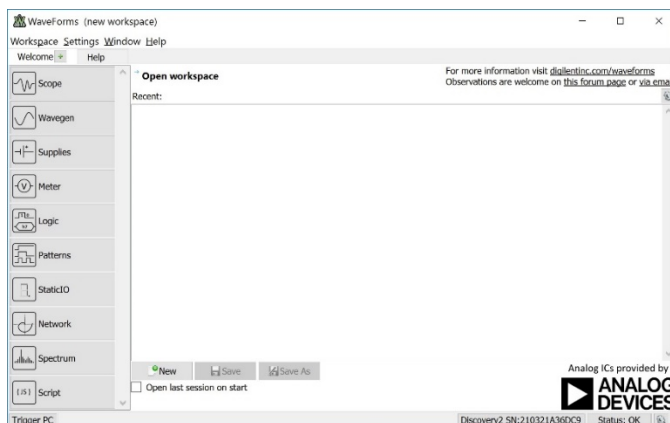

Figure 9.5
Launch *Waveforms* (Start –Digilent – Waveforms). The software will automatically recognize the Analog Discovery and connect. The *Waveforms* startup window shown in Figure 9.5 will appear. From this window, you can launch all of the tools associated with the Analog Discovery. Each tool brings up a new tab within the workspace window. Multiple tools can be launched and ran at the same time.
In this lab exercise you are going to create a FSM that will produce a walking 1 pattern within a 10-bit vector. The 10-bit output vector will drive the 10x red LEDs and lower 10x pins on the GPIO_1 header. This FSM will require 10x states and use Moore-type outputs. The direction of the walking 1 pattern will be dictated by SW(0). When SW(0)=1, the pattern will walk from LEDR(0) to LEDR(9) and repeat. When SW(0)=0, the pattern will walk from LEDR(9) to LEDR(0) and repeat. Figure 9.5 shows a graphical depiction of the walking 1 patterns as seen on the red LEDs.